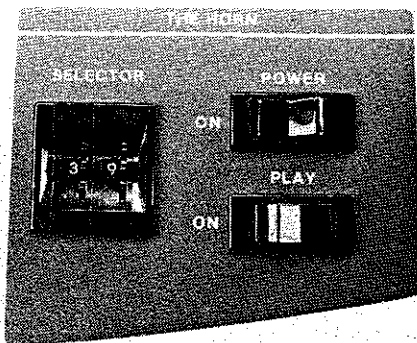

Figure 2-3. "The Horn".
②⑨ **AUX. BATTERY** Switch — When this switch is pressed, a jumper solenoid connects the generator and coach batteries together (in parallel) to provide extra power for cranking the generator or coach. Releasing the switch immediately isolates the two battery systems.
③⑩ **THE HORN**, Figure 2-3 — This corner of the dash has 3 different switches for use with the musical horn.